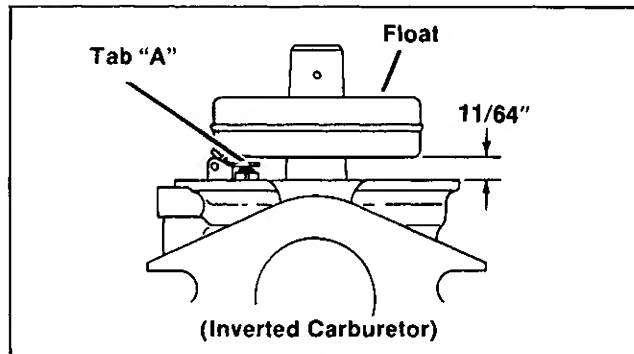

Figure 4-4. Setting Float Level
2. **Set float level.** Invert carburetor—with float resting lightly against inlet needle in its seat, there should be $11/64"$ ($\pm 1/32"$) clearance between machined surface of casting and free end of float (side opposite needle seat). Adjust by bending float tab "A" with a small screwdriver. See Figure 4-4.